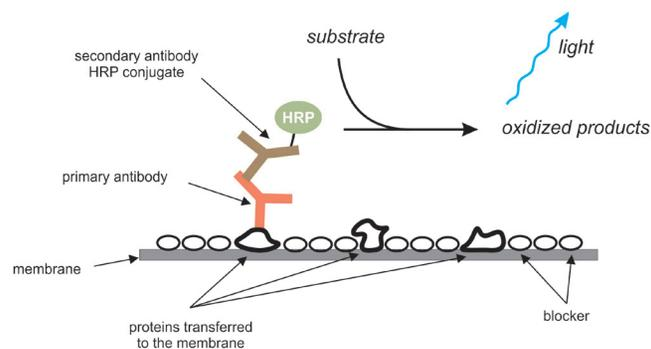

Figure 1. The principle of chemiluminescent Western blotting.
Western blotting is a protein analysis tool that has become commonplace in molecular biology and protein chemistry laboratory. The principle of chemiluminescent Western blotting is shown in Figure 1. The general protocol, including the role of WesternBright ECL, can be seen on page 7. Proteins are separated by size via electrophoresis, and then transferred electrophoretically from the gel to a membrane support, usually nitrocellulose or PVDF. This membrane containing the transferred proteins is commonly referred to as a blot. The location of a protein of interest is detected on the blot by applying the primary antibody, which binds to the protein. The primary antibody bound to the blot is then visualized using a secondary antibody that binds to the primary antibody. The secondary antibody is labeled in some way to make it detectable, such as with a radioactive isotope or an enzyme that can be detected by its activity.
Since 1988, enhanced chemiluminescence or ECL (1) has become one of the most common detection methods in Western blotting (2). In this method, the secondary antibody is conjugated to the enzyme Horseradish peroxidase (1,2). Once bound to the membrane, the secondary antibody is detected by incubating the blot with a solution containing an HRP substrate that generates a light-emitting product after reaction with HRP (Figures 1, 2). The chemiluminescent signal can be detected by exposing the blot to X-ray film, or by imaging with a CCD camera.